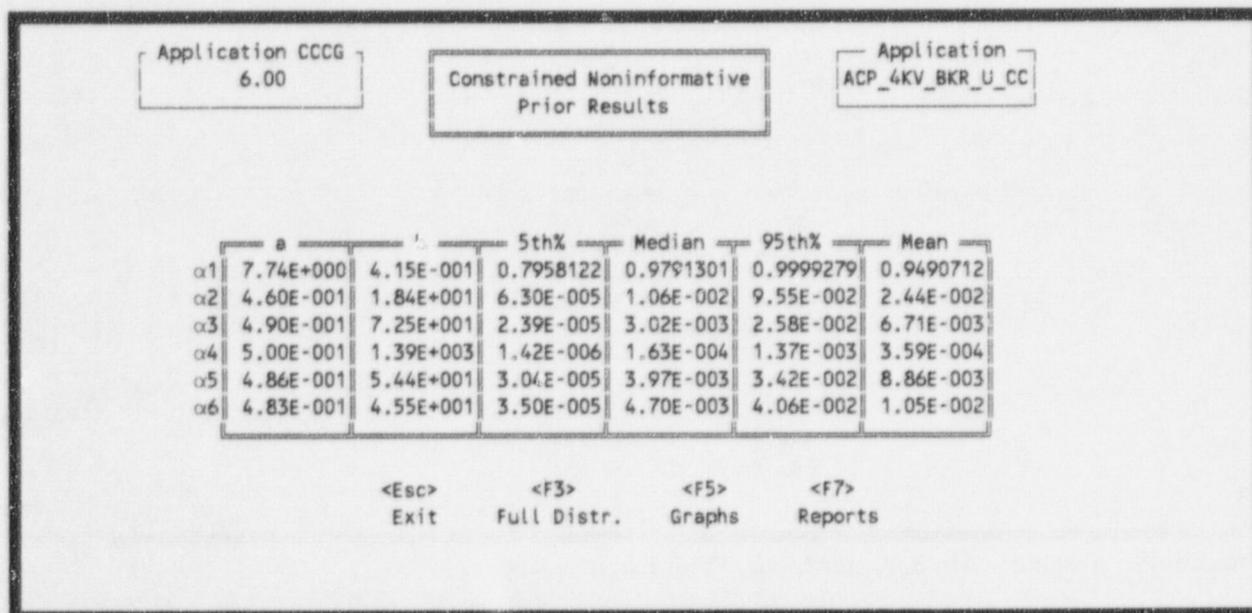

Figure 51. Specific—Constrained Noninformative Prior Results.
**4.2.1.2.1 Constrained Noninformative Prior**—The results of Constrained Noninformative Prior calculations are displayed in Figure 51.